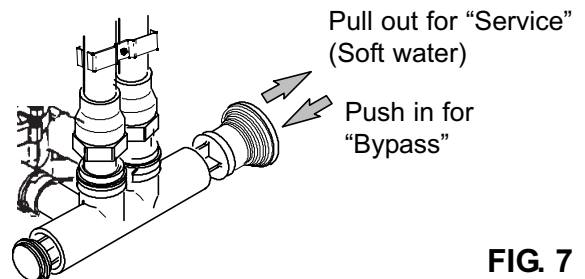
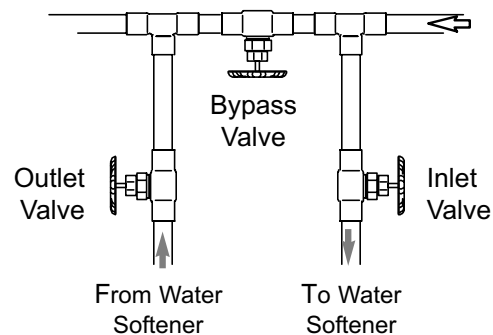

FIG. 7
FIG. 8
Always install either a single bypass valve (provided), as shown in Figure 7, or, if desired, parts for a 3 valve bypass system (not included) can be purchased and assembled, as shown in Figure 8. Bypass valves allow you to turn off water to the softener for maintenance if needed, but still have water in house pipes. Pipe fittings must be 3/4" minimum.
2. Place the bypass valve (single or 3 valve) into the "bypass" position. See Figures 7 & 8 on Page 7.